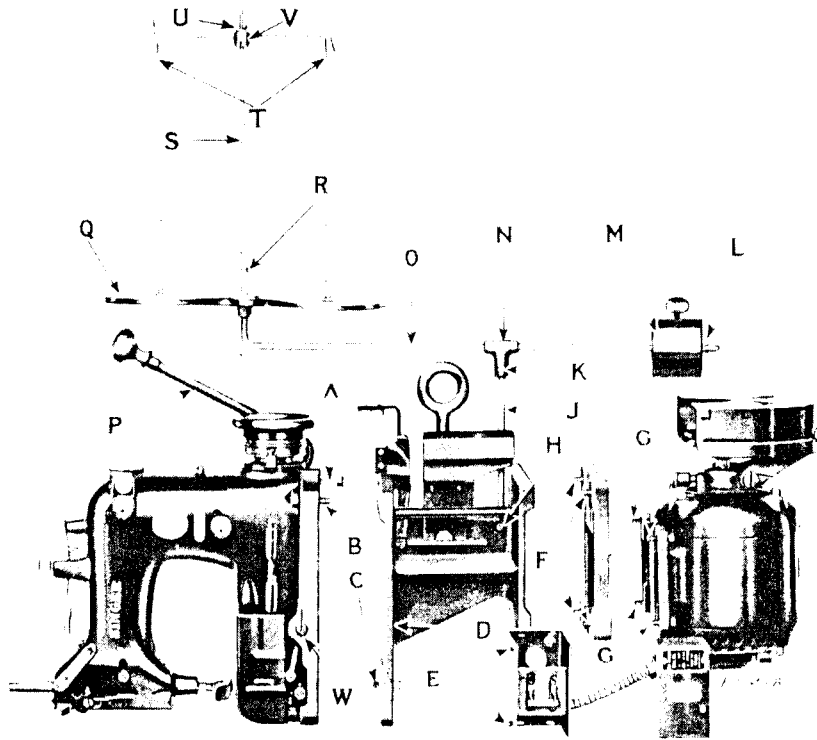

Fig.3. Showing relative position of parts before assembling
Insert the bolt (A) in the machine base as shown in Fig.3, and